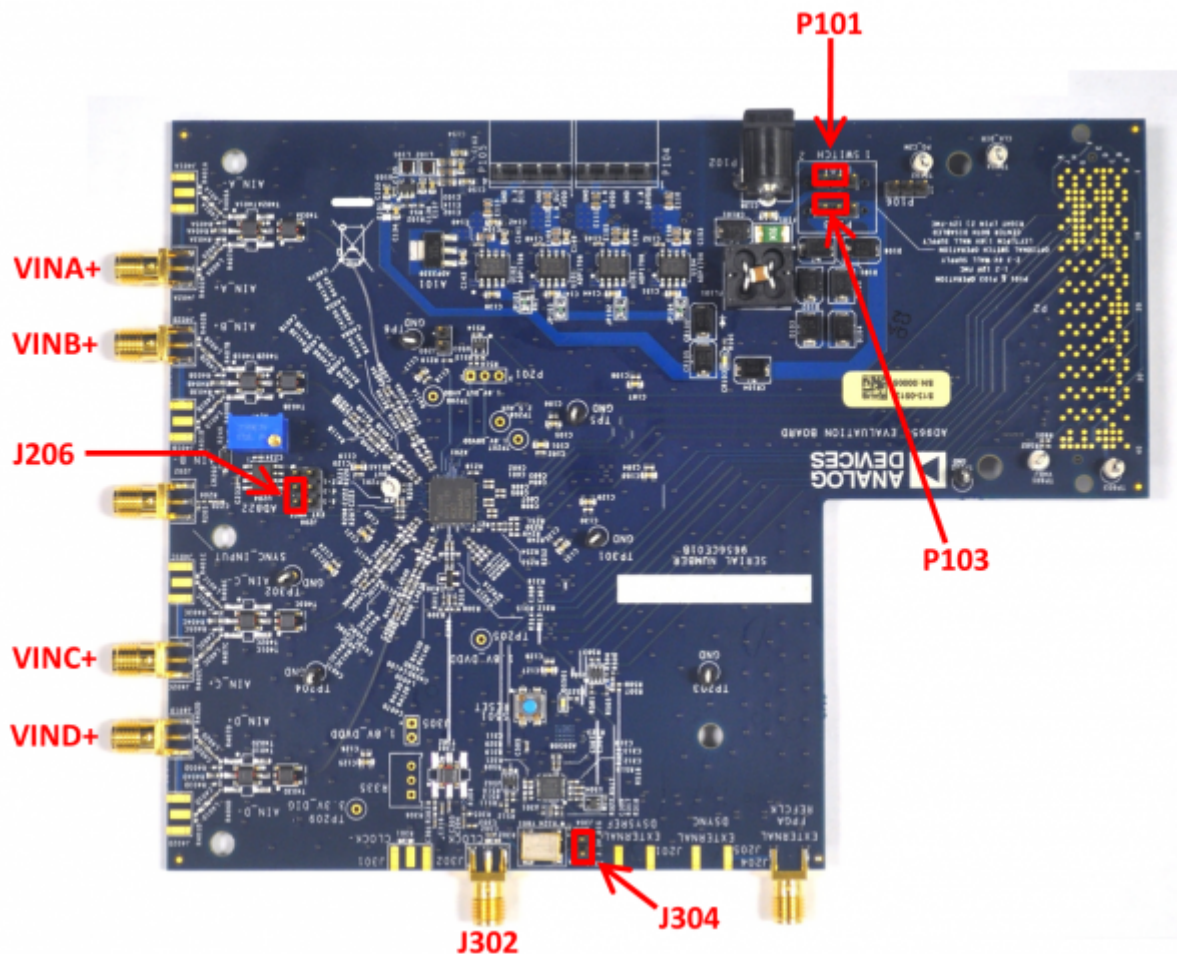

Figure 2. Default Jumper Connections for *AD9656EBZ* Board
2. On the ADC evaluation board, confirm that the jumpers are installed as shown in Figure 2.
Set the jumper settings/link options on the evaluation board for the required operating modes before powering on the board. The functions of the jumpers are described in Table 1. Figure 2 shows the default jumper settings.
J206	<p>This jumper selects between internal V_{REF} and external V_{REF}.</p> <p>To choose the ADC's internal reference, connect Pin 3 (DUT_SENSE) to Pin 5 (GND) as shown in Figure 2. The default value of the internal reference is 1 V. SPI Register 0x18 Bits[7:6] can be used to program the internal reference voltage to values from 1 V to 1.4 V, in 0.1 V increments. Register control is accomplished with SPIController software, which is discussed below in the Setting up the SPI Controller Software section.</p> <p>To use the on-board AD822 buffered reference, connect Pin 2 (DUT_SENSE) to Pin 1 (AVDD), and connect Pin 4 (DUT_VREF) to Pin 6 (EXT_REF). Adjust external VREF to the desired value (from 1.0 V to 1.4 V) using potentiometer R247.</p> <p>To apply a reference voltage from an external off-board source, connect Pin 2 (DUT_SENSE) to Pin 1 (AVDD) and apply the reference voltage to Pin 4 (DUT_VREF). The AD9656 reference voltage is specified to be from 1.0 V to 1.4 V.</p>